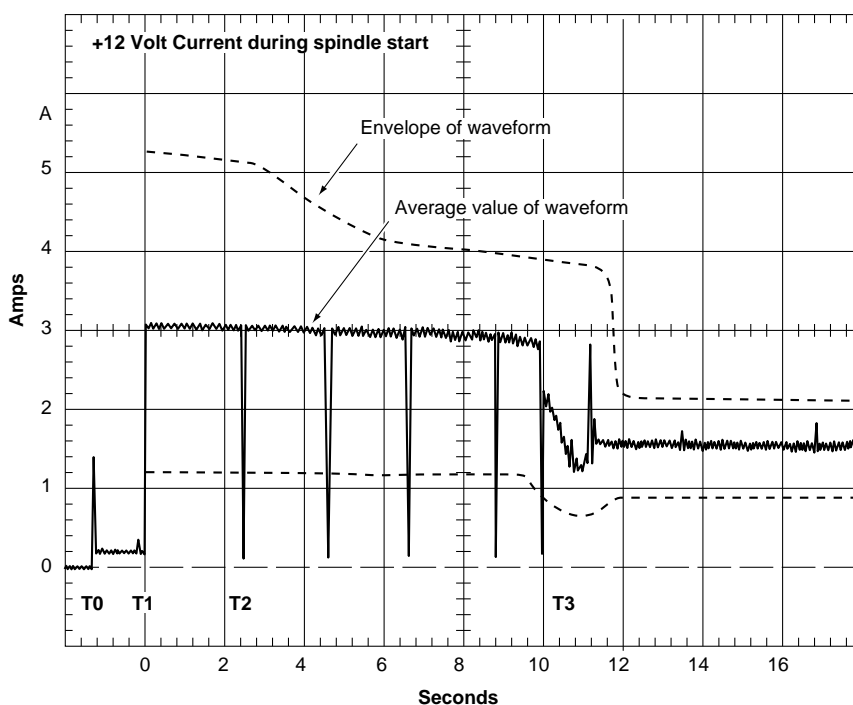

Figure 3. Typical Cheetah 9FC drive +12V current profile
- [3] See +12V current profile in Figure 3.
Figure 3 identifies the drive +12V current profile. The current during the various times is as shown.